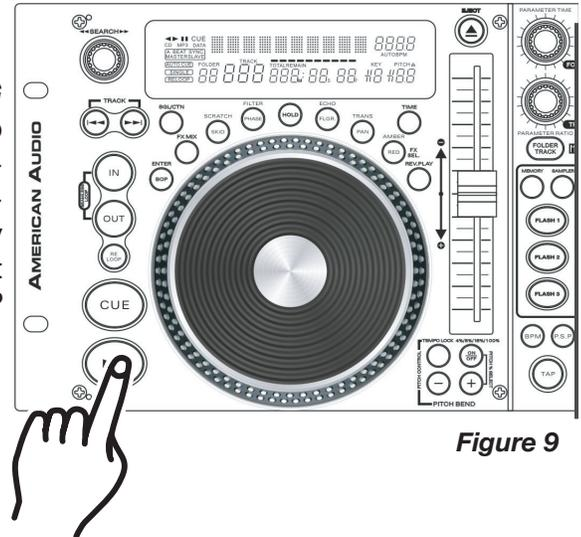
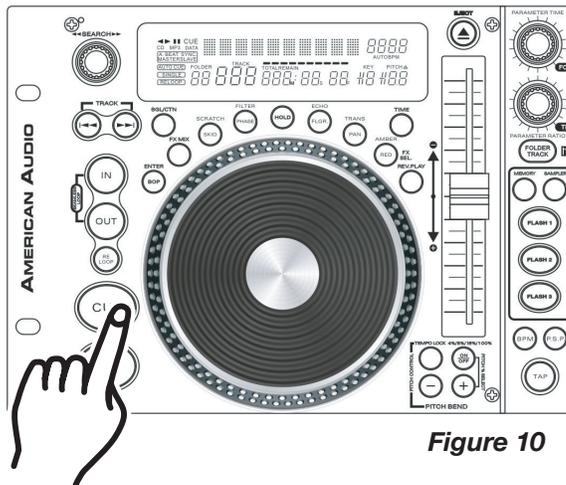
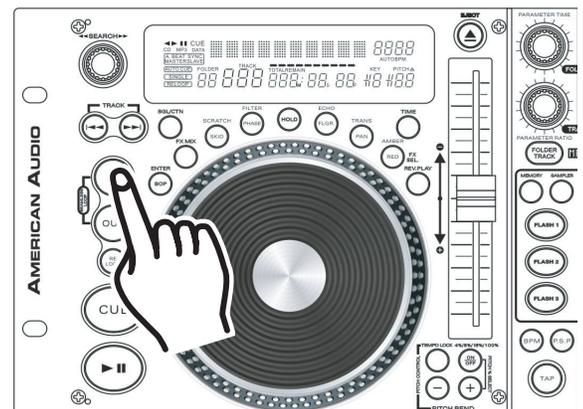

Figure 9
Figure 10
Figure 13
3. STARTING PLAYBACK - *Figure 9*
5. STOPPING PLAYBACK - *Figures 9 & 10*
- 1) Press the *PLAY/PAUSE BUTTON (23)* during playback. This will pause playback at the exact same point the *PLAY/PAUSE BUTTON (23)* was pressed.
- 2) Press the *CUE BUTTON (22)* during playback. This will pause playback and return the track to the last set cue point.
6. PAUSING - *Figure 9*
This feature allows you to scroll through a track frame by frame, allowing you to find and set a starting cue, sample, or loop point. To use the scroll function you must first be in Pause Mode (see section 5) or Cue Mode (see section 7). Once you are in Pause or Cue mode, turn the *JOG WHEEL* (24) to scroll through the track (Figure 13). Turning the wheel in a clockwise direction will advance the frame search and turning the wheel in a counterclockwise direction rewinds the frame search. When you use the *JOG WHEEL* (24) the monitor (headphone level) function allows you to here what you are scrolling through. Once you reach your desired starting point you can set a cue (starting) point by pressing the *PLAY/PAUSE BUTTON* (23) as in Figure 9. Pressing the *CUE BUTTON* (22) as in Figure 10 will now return you to the point you just set.
A cue point is the exact point playback will begin when the *PLAY/PAUSE BUTTON* (23) is pressed. You may set your cue points anywhere on a disc or in a track. You may set up to four independent cue points per disk. Three cue points are stored in the *FLASH BUTTONS 1-3* (31) and one is shared by the *IN BUTTON* (33), *BOP BUTTON* (34) and the *CUE BUTTON* (22). There are two (2) ways to set and create a CUE point as detailed in figures 13 and 14
- 1) You may press the *IN BUTTON* (33) on the fly (while the disc is playing). This will set a CUE Point without music interruption. Pressing the *CUE BUTTON* (22) will now return you to the same point that you pressed the *CUE BUTTON* (22). You may now store this CUE Point in any of the *FLASH BUTTONS 1-3* (31). Pressing the *CUE BUTTON* (22), *BOP BUTTON* (34) or the *IN BUTTON* (33) will now return you to this exact point.
- 3) Press the *OUT BUTTON* (2) to set the ending point for your SEAMLESS LOOP (Figure 13). The *IN BUTTON* (33) and *OUT BUTTON* (2) LEDs will immediately begin to flash rapidly, indicating the SEAMLESS LOOP mode has been activated.